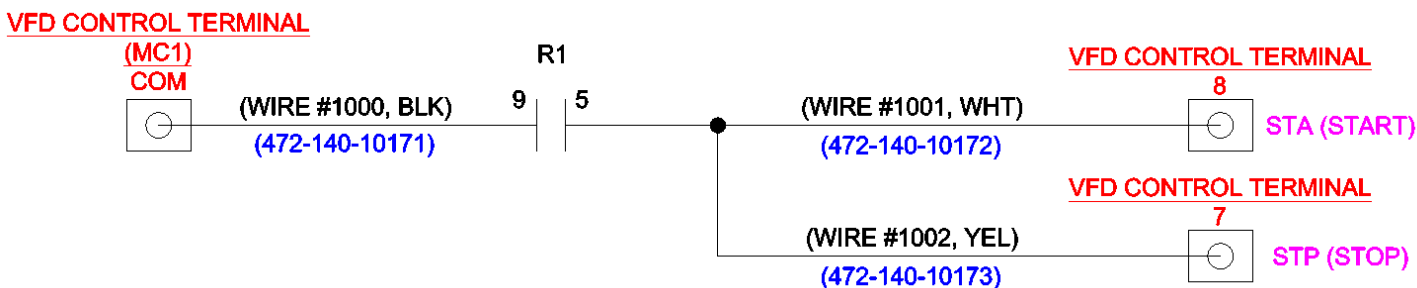

Figure 20: MC1 Relay (R1) Contact diagram
6.5.3 **Connect** pre-fabricated wiring (472-140-10171, 472-140-10172, & 472-140-10173) to Relay R1 contacts from MC1 Control Terminal for Start and Stop signaling. See *Figure 20* for MC1 wiring diagram.